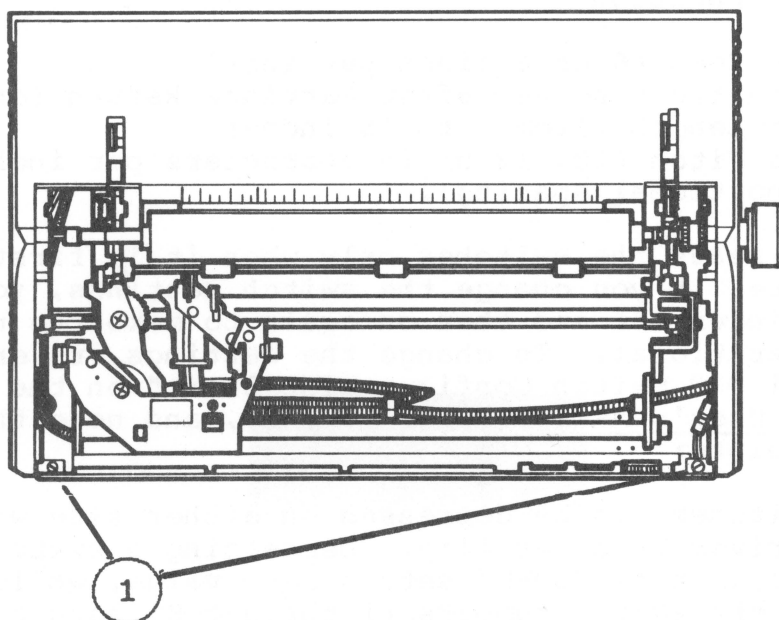

FIGURE 7
6. Loosen completely, but do not remove, the two screws near the front of the printer (one on either side) (Figure 7, #1).